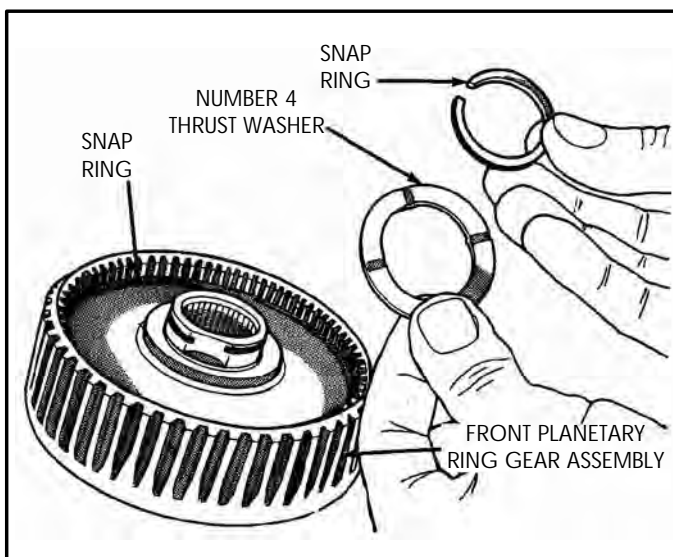

Figure 62
1. Remove and discard retaining snap ring, as shown in Figure 62.
2. Remove the number 4 thrust washer, as shown in Figure 62.
12. Install the number 4 thrust washer on assembly, as shown in Figure 62.
13. Install a **new** snap ring, as shown in Figure 62, and ensure that it is fully seated in groove.